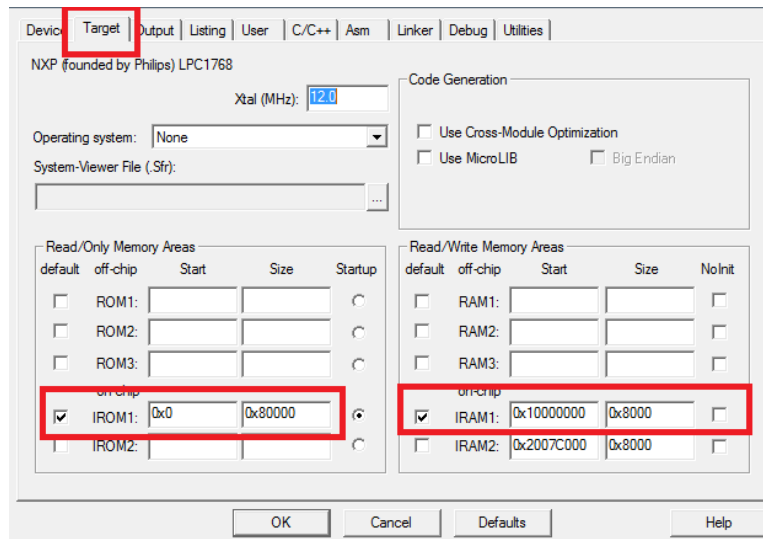

Figure 1.3: Keil IDE: Target Default Memory Map Configuration
- the default memory map is used (see figure1.3); and